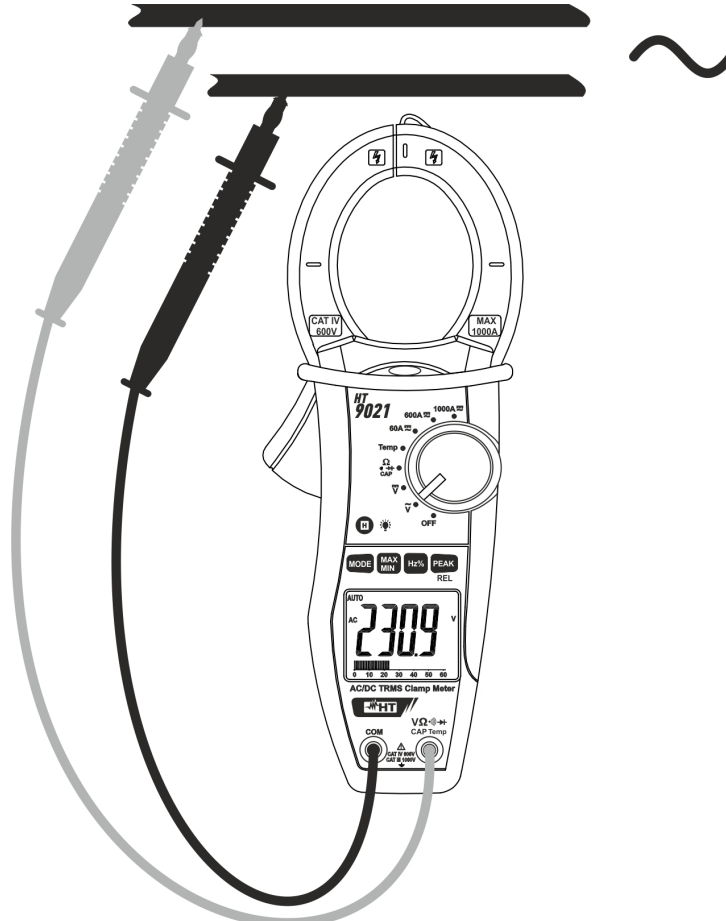

Fig. 3: Taking AC voltage measurements
3. Insert the red test lead plug into $V\Omega$ \rightarrow CAP Temp jack and the black test lead plug into COM jack (Fig. 3)